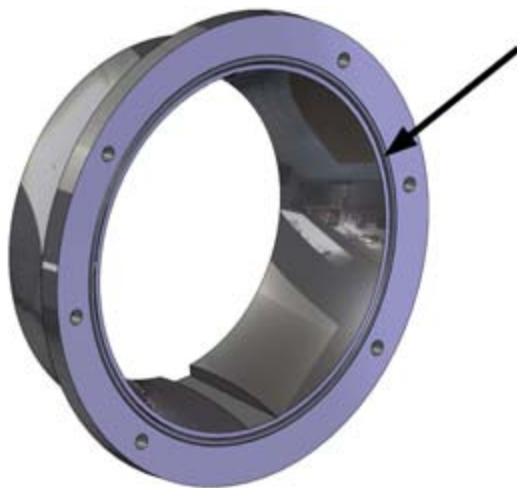

Figure 96. Choker seal
3. Remove the old seal (figure 96).